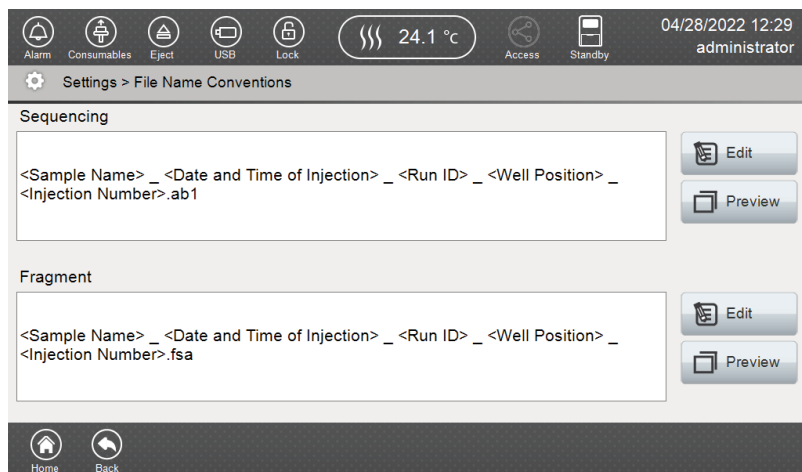

Figure 169. 'File Name Conventions' screen.
2. Settings for Sequencing and Fragment analyses are displayed (Figure 169). Attributes enclosed within <> are separated by delimiters (_). Users can preview or edit file name conventions on this screen.
3. Select **Edit** to change File Name Conventions (Figure 169).